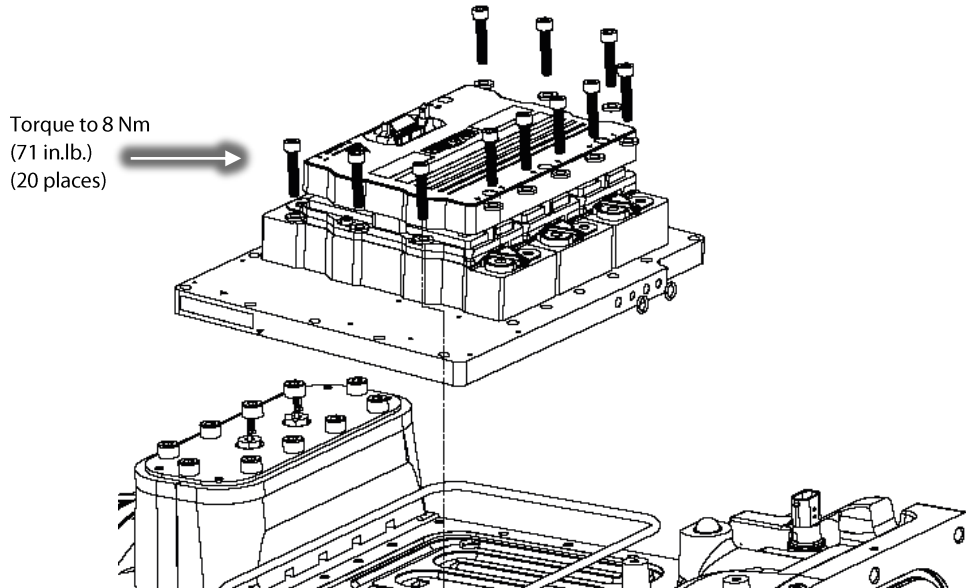

Figure 18 – Inverter Removal
28. Remove the fasteners that secure the Inverter to the compressor main housing. Refer to Figure 18 (Inverter Removal).
29. Carefully, remove the Inverter and discard the two (2) O-rings underneath. (Note that the SCR cooling manifold will be attached to the Inverter cooling plate.)